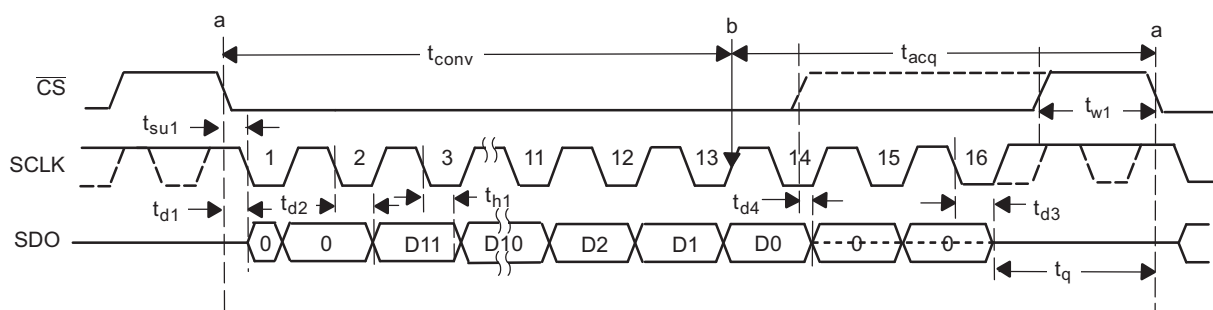

Figure 21. Interface Timing Diagram
**TIMING REQUIREMENTS (see Figure 21)**
(1) 3-V Specifications apply from 2.7 V to 3.6 V, and 5-V specifications apply from 4.5 V to 5.5 V.
(2) With 10-pf load.
**TIMING REQUIREMENTS (see Figure 21) (continued)**
The cycle begins with the falling edge of  $\overline{\text{CS}}$ . This point is indicated as **a** in Figure 21. With the falling edge of  $\overline{\text{CS}}$ , the input signal is sampled and the conversion process is initiated. The device outputs data while the conversion is in progress. The data word contains two leading zeros, followed by 12-bit data in MSB first format and padded by two lagging zeros.
The falling edge of  $\overline{\text{CS}}$  clocks out the first zero, and a second zero is clocked out on the first falling edge of the clock. Data is in MSB first format with the MSB being clocked out on the 2nd falling edge. Data is padded with two lagging zeros as shown in Figure 21. The conversion ends on the first rising edge of SCLK after the 13th falling edge. At this point the device enters the acquisition phase. This point is indicated by **b** in Figure 21.
Figure 21 shows the device data is read in a sixteen clock frame. However,  $\overline{\text{CS}}$  can be asserted (pulled high) any time after point **b**. SDO goes to 3-state with the  $\overline{\text{CS}}$  high level. The next conversion should not be started (by pulling  $\overline{\text{CS}}$  low) until the end of the quiet sampling time ( $t_q$ ) after SDO goes to 3-state or until the minimum acquisition time ( $t_{\text{acq}}$ ) has elapsed. To continue normal operation, it is necessary that  $\overline{\text{CS}}$  is not pulled high until point **b**. Without this, the device does not enter the acquisition phase and no valid data is available in the next cycle. (Also refer to the Power-Down Mode section for more details.)  $\overline{\text{CS}}$  going high any time during the conversion aborts the ongoing conversion and SDO goes to 3-state.